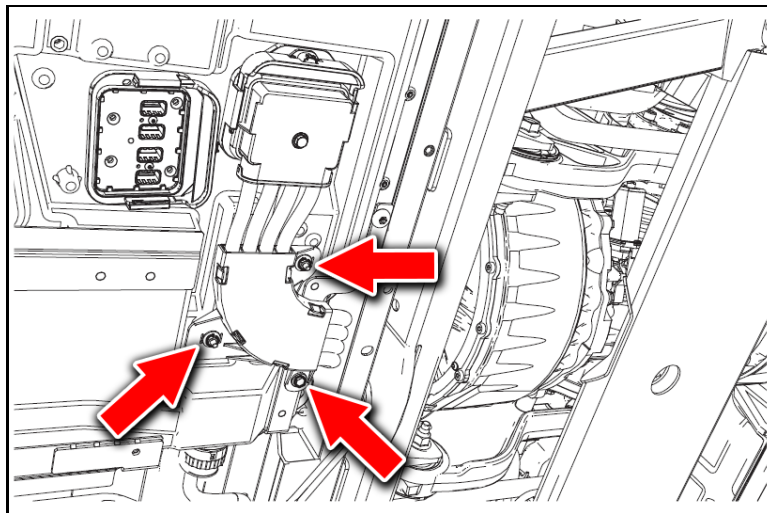

Figure 3E
3.5. Remove wiring loom guide bolts (x3) (Figure 3E).